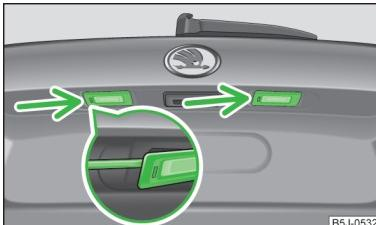

Fig. 161
- Insert a flat screwdriver into the opening in the area of the arrow » Fig. 161 and carefully press towards the centre of the lamp; the lamp pops out slightly as you do this.